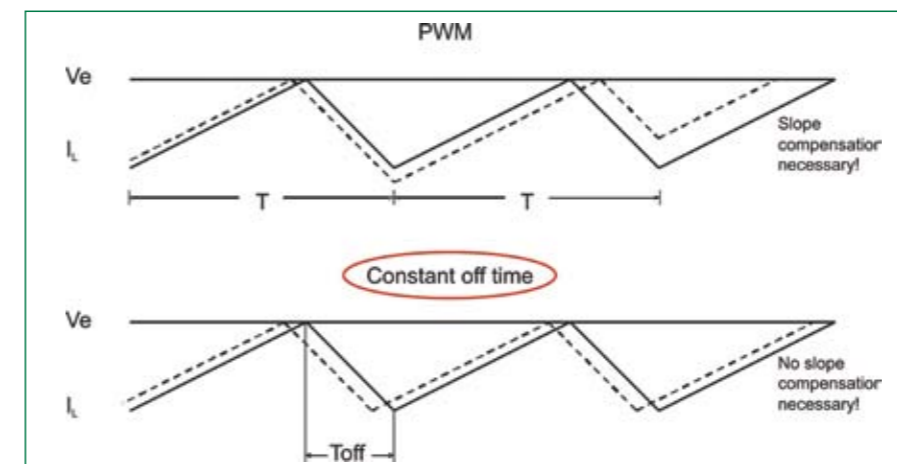

Figure 1: Inductor current waveform after perturbation.
As shown in figure 1, the Adaptive(1) Off-time Current Mode Control does not have to deal with sub-harmonic oscillation present in conventional PWM controllers when perturbations occur, thus does not require any slope compensation.
(1) The so-called adaptive off-time changes its duration according to the Duty Cycle. In other words, the off-time "adapts" with V_{IN} and V_{OUT} .